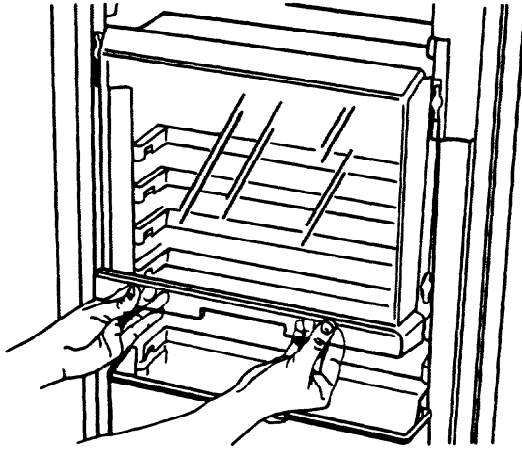

Figure 43
h. To remove beverage chiller door, remove chiller bucket. Slide door down and out through bottom of door track. See Figure 43.